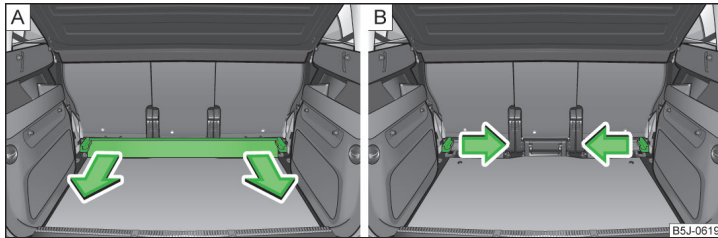

Fig. 71 Boot: Take out lateral carrier rail/Take out fixing wedges
- Remove the lateral carrier rail » Fig. 71 - A and remove by pulling in the direction of arrow.
- Remove the mounting wedges by pulling in the direction of the arrow » Fig. 71 - B.